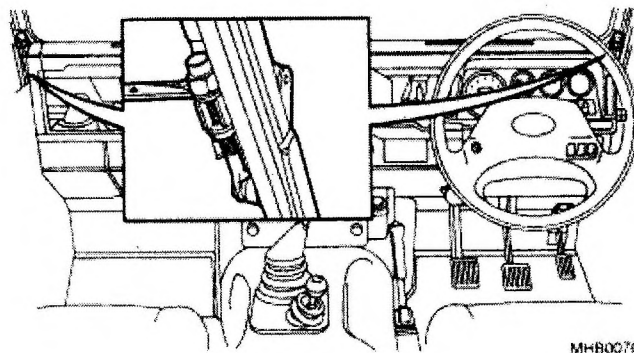

Fig 16 Windscreen lowering operation
- 43.4 Slacken the cap nuts on the windscreen clamps (Fig 16).